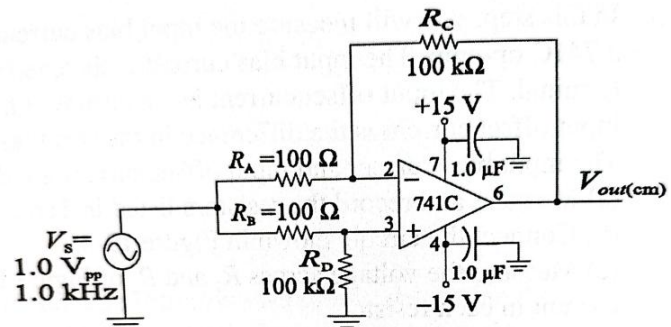

Figure 19-4
- Connect the circuit shown in figure 19-4. Set the signal generator for 1 V_{pp} at 1kHz. Measure the output voltage, $V_{out(cm)}$. Determine the common-mode gain, $A_{v(cm)}$, by dividing $V_{out(cm)}$ by $V_{in(cm)}$. Record the result in Table 19-1.